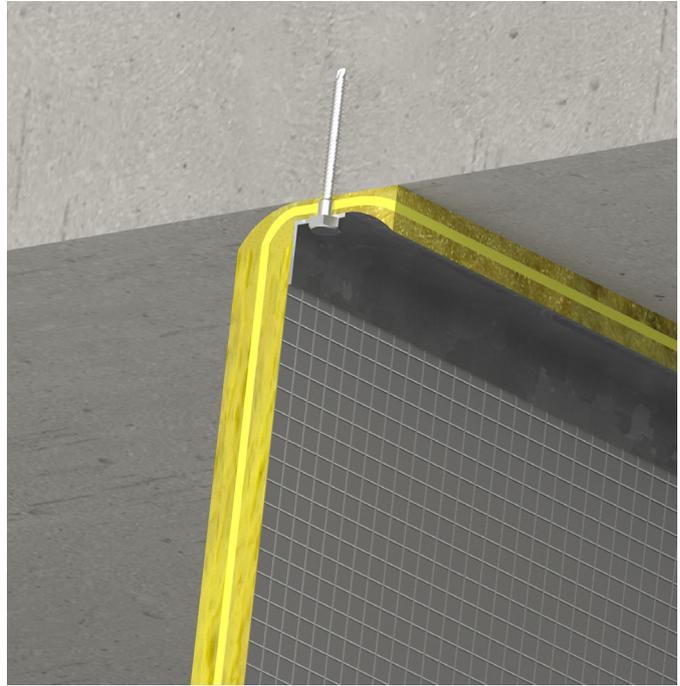

Fig 2. Head Fixing
**Head fixing:** The quilt is continuously secured and supported by clamping the product between the soffit and a mild steel angle section. Mechanical fixings should be selected with reference to the background material. See Fig 2.